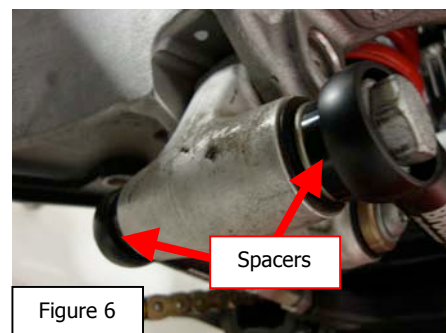

Figure 6
9. Install the stock bolt and supplied spacers, install the nut and torque to 73.5 lb-ft (100 Nm). See Figure 6.